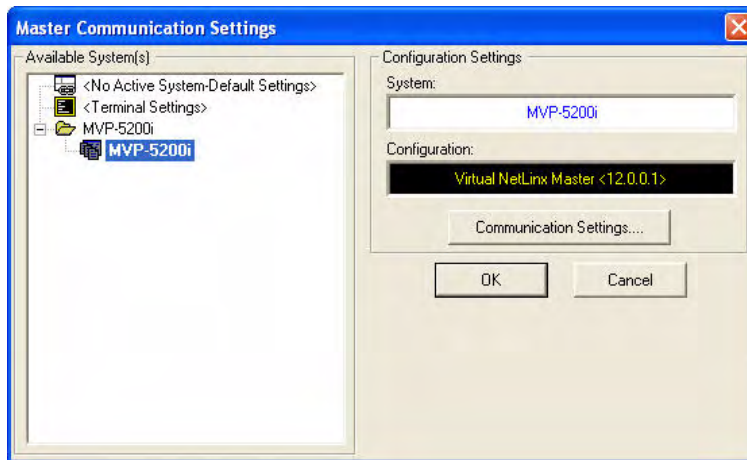

FIG. 80 Master Communications Settings dialog box
1. Launch NetLinX Studio 2.x and select **Settings > Master Communication Settings** from the Main menu to open the *Master Communication Settings* dialog (FIG. 80). If this is the first time the device needs to be configured, refer to the *Configuring Modero Firmware via the USB Port* section on page 172.